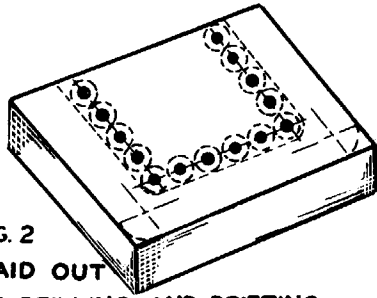

FIG. 2
2. Lay out lines along the waste side of contour of job with approximately $1/32$ " allowance for machining or filing to a line. The holes should be evenly spaced with a minimum web of metal between them. Center punch intersections for holes. (Fig.2).